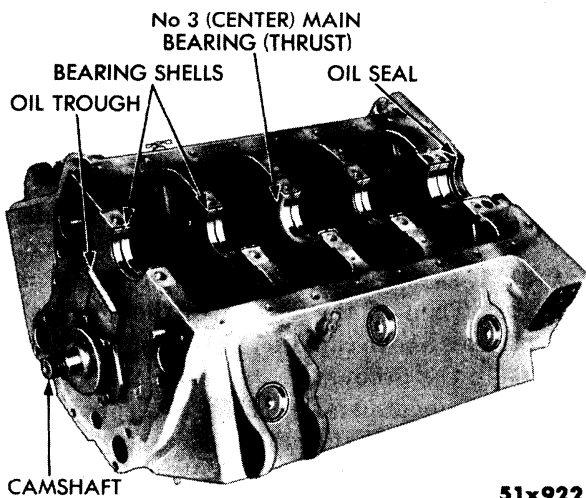

Fig. 101—Crankshaft Main Bearing Shells Installed
- (1) Check each bearing shell carefully for a scored, chipped, or etched condition. Replace damaged bearing shells, as shown in Figure 101.
- (2) Lubricate all bearing shells with engine oil, then carefully lower crankshaft, and clutch, or torque converter (if so equipped), directly down on the bearing shells. The crankshaft should be lowered evenly and square with block to prevent damage to the bearings.